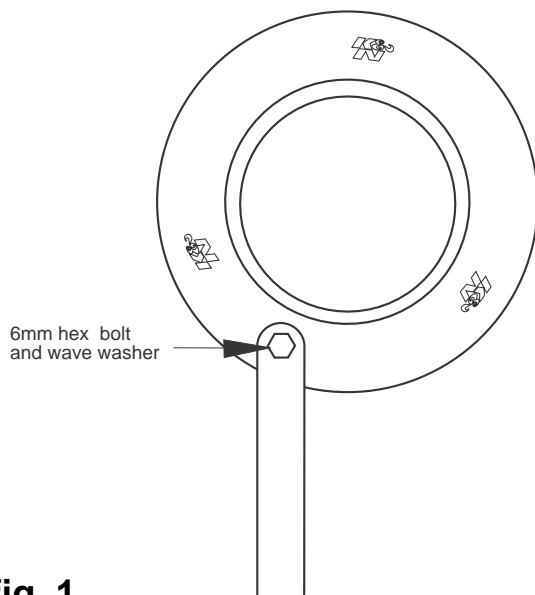

fig. 1
- 4) Bolt the "L" bracket onto velocity adapter, do not completely tighten at this time. (see fig.1)